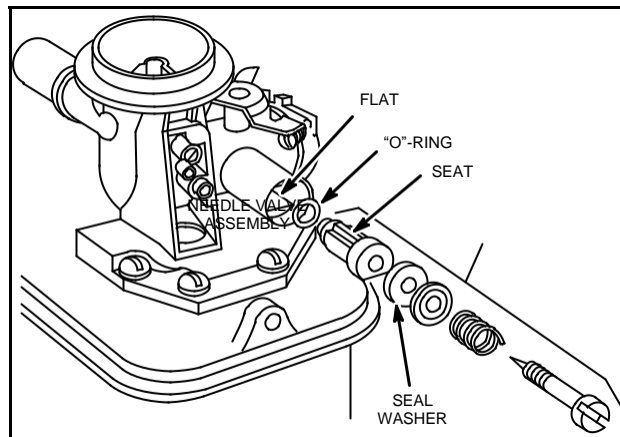

Fig. 247 - NEEDLE VALVE ASSEMBLY, PRESSED-IN TYPE
2. Then turn needle in until large seal washer just touches needle seat, Fig. 247.
4. Install needle valve as an assembly being sure flat on valve seat lines up with flat in carburetor body, Fig. 247.
**NOTE:** On later carburetors, a slot was added to top of needle valve assembly bore to line up with rib on needle valve assembly, Fig. 247.